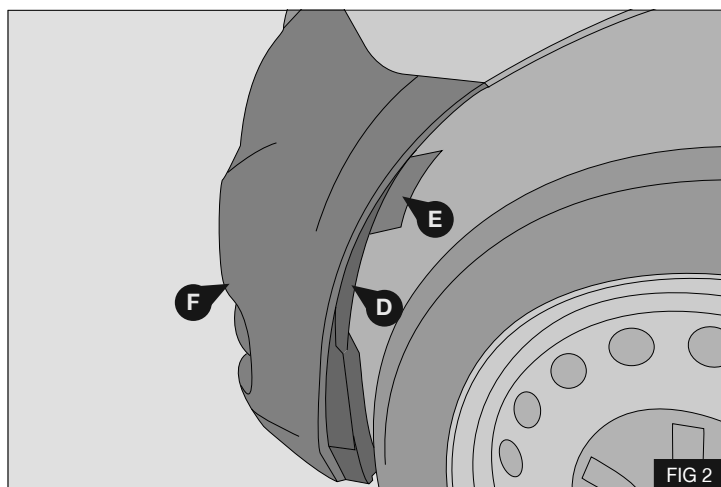

FIG 2
2. Unclip the front section of the front wheel arch liner (D) remove the access panel (E) remove the 3x screws securing the bumper (F) to the wing - Fig 2
4. Remove the bumper (F) - Fig 2